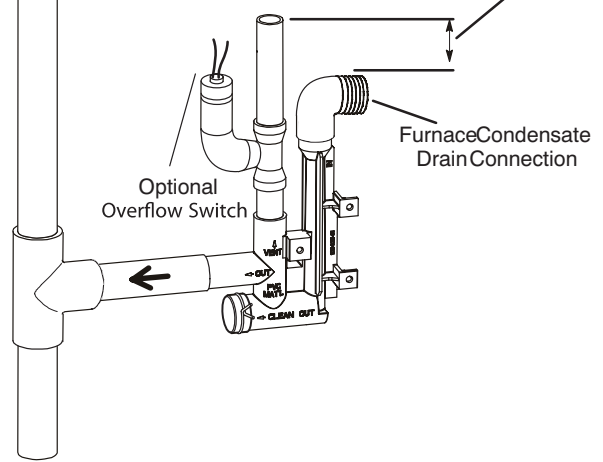
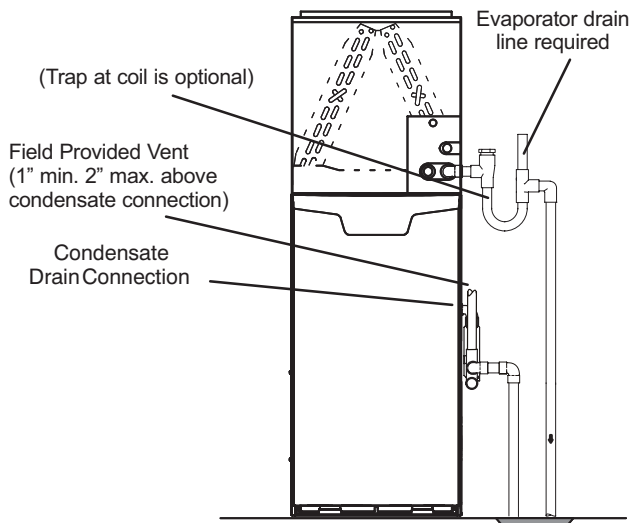
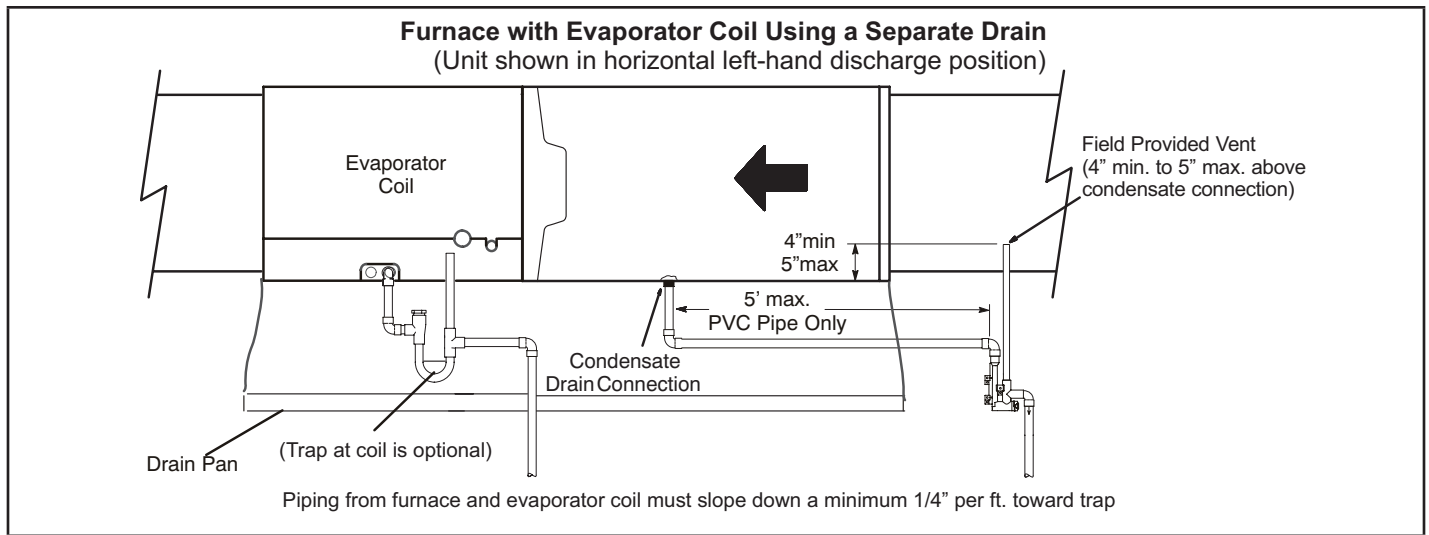
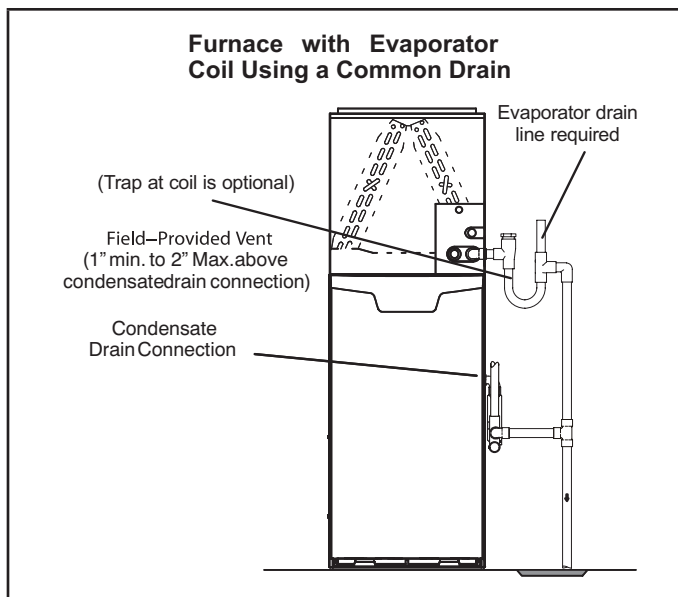

FIGURE 52
FIGURE 51
FIGURE 53
FIGURE 54
- 5 - FIGURE 51 and FIGURE 53 shows the furnace and evaporator oil using a separate drain. If necessary the condensate line from the furnace and evaporator coil can drain together. See FIGURE 52, FIGURE 54 and FIGURE 55. *Upflow furnace (FIGURE 54)* - In upflow furnace applications the field provided vent must be a minimum 1" to a maximum 2" length above the condensate drain outlet connection. Any length above 2" may result in a flooded heat exchanger if the combined primary drain line were to become restricted. *Horizontal furnace (FIGURE 55)* - In horizontal furnace applications the field provided vent must be a minimum 4" to a maximum 5" length above the condensate drain outlet connection. Any length above 5" may result in a flooded heat exchanger if the combined primary drain line were to become restricted.